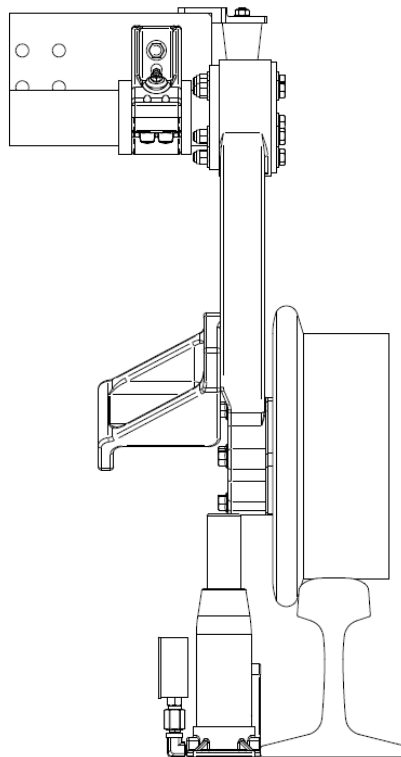

Figure 2-4: Wheel Weight Jack
3. See Figure 2-4. Place the wheel weighing jack (CO-105) under the guide wheel arm directly below the wheel spindle. Jack the guide wheel up until the guide wheel just clears the top of the rail. Note the gauge reading. The gauge reading indicates the pounds of load on the guide wheel.